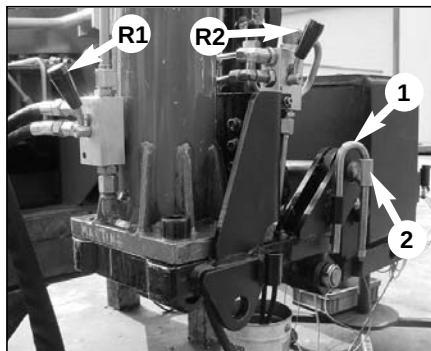

fig. 13
- **rotation of the outrigger ram n°1 from the rest position (fig. 13) to the working condition (fig. 15)**